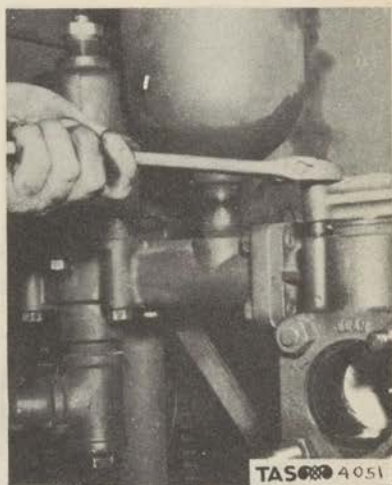

Figure 67. Loosening Top Cylinder Heads.
(6) Loosen the top cylinder heads. (Fig. 67)